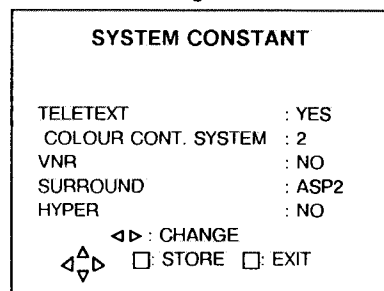

Fig. 2
- 3) While PRESET MODE is displayed, simultaneously press the DISPLAY and VSM STANDARD keys to produce the SYSTEM CONSTANTS SET screen indicated in Fig. 2.